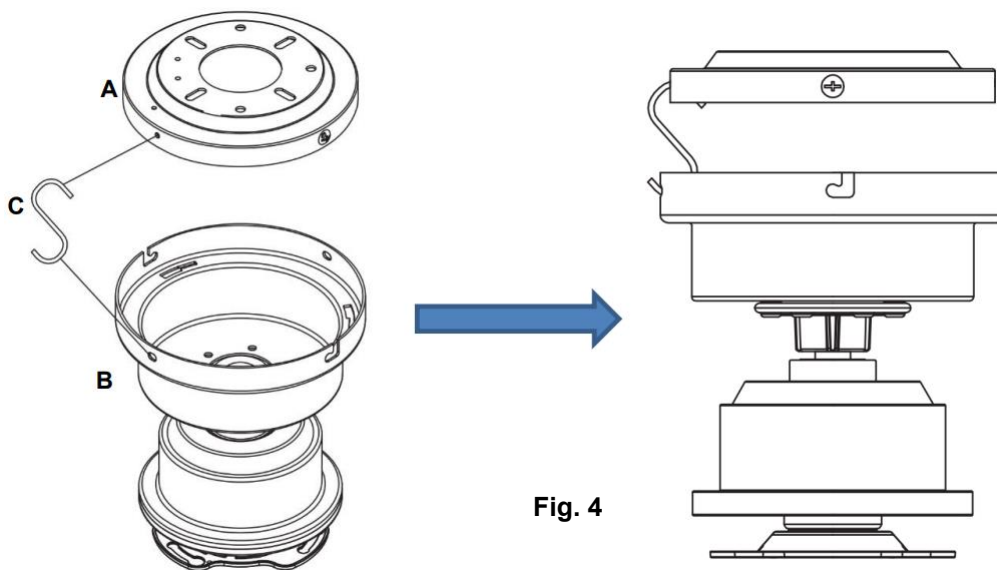

Fig. 4
- Lift the fan assembly (B) up to the mounting bracket(A). Hang the fan assembly onto the mounting bracket by S-hook (C). (Fig.4)